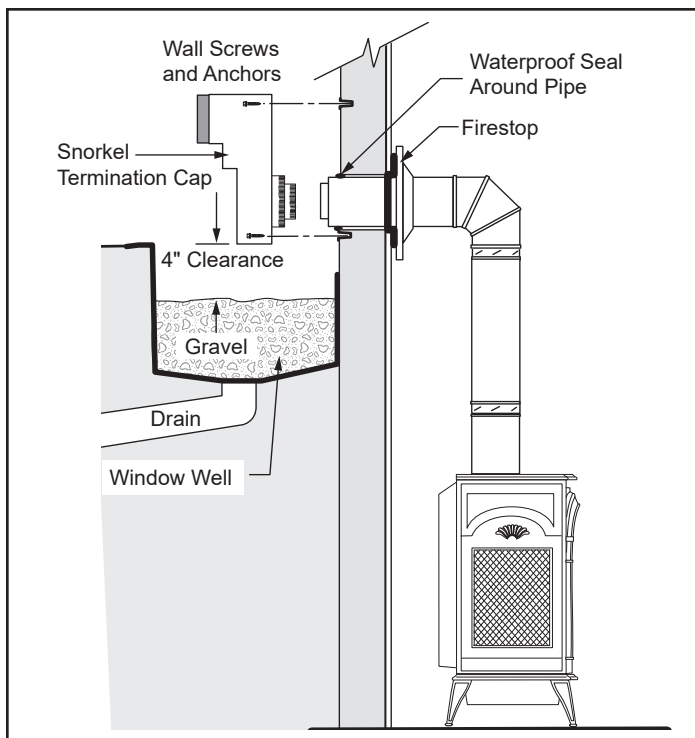

Figure 3.16 - Snorkel kit installation.
2. Remove soil to a depth of approximately 16" (406 mm) below the base of the snorkel. Install a window well (not supplied). Refill the hole with 12" (305 mm) of coarse gravel and maintain a clearance of at least 4" (102 mm) below the snorkel, Figure 3.16.